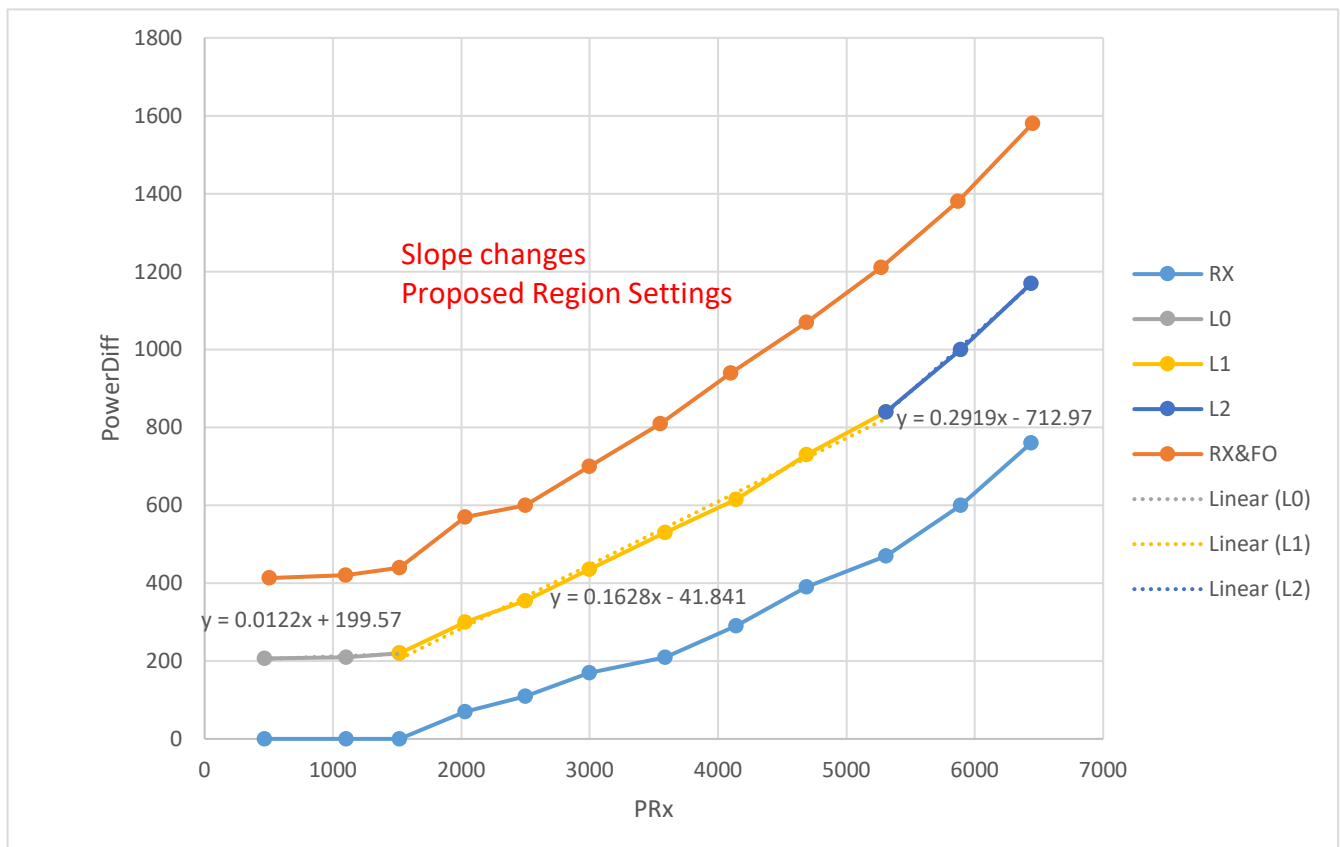

Figure 2. Measurements Needed to Tune FOD with P9261
- Draw “ $PowerDiff_{BPP_RX}$ vs PR_{BPP_RX} ”, “ $PowerDiff_{BPP_RX_and_FO}$ vs $PR_{BPP_RX_and_FO}$ ” and “Threshold vs PR_{BPP_RX} ” in the same chart. From the chart below (see Figure 2), we can see slope changes, then we can get the Region Control setting: the 3rd and 10th point’s PR_x will be used as the “FOD Power L1” and “FOD Power L2”.